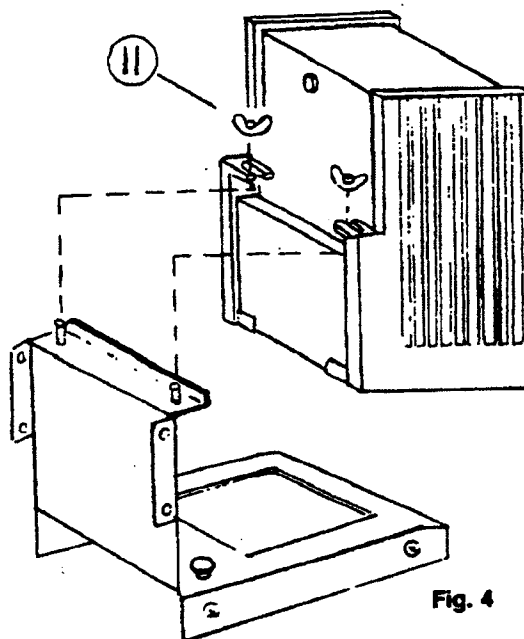

Fig. 4
- I. Raise the lamphouse elevating arm and mount the lamphouse on the projection assembly using the two wing nuts shown in Figure 4.